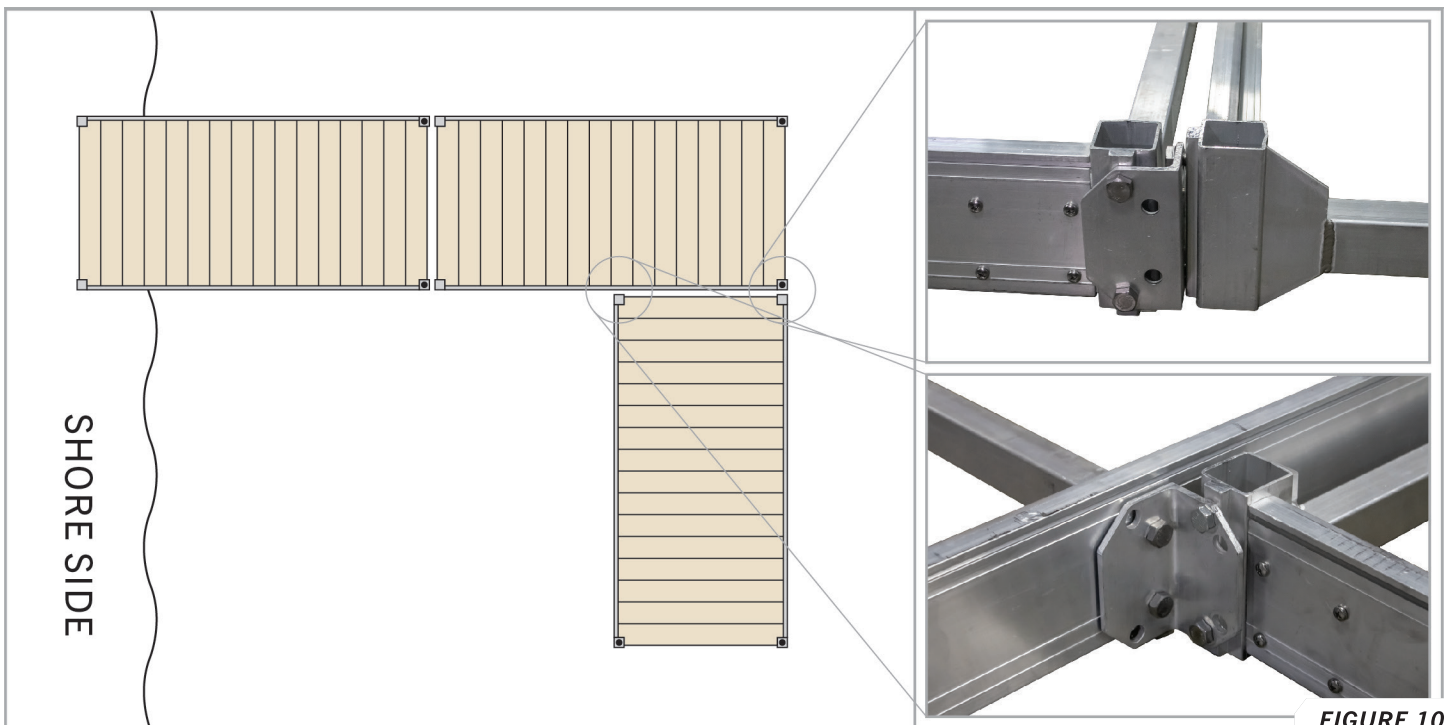

FIGURE 10
26. Secure the outside corner with the provided right-angle adapter using the provided $\frac{1}{2}$ " hardware as shown. **FIGURE 10**
27. Using the newly drilled holes in the dock side. Secure the inside corner with the provided right-angle adapter using the provided $\frac{1}{2}$ " hardware as shown. **FIGURE 10**